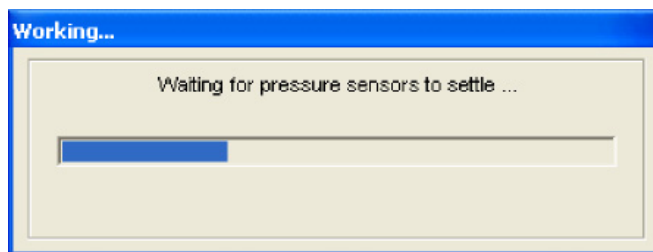

Figure 4-4. Auto-zero Status Window
- step 3* Once the system indicates that it is at ambient pressure, click **OK** and a status window will indicate that auto-zero is in progress (Figure 4-4).